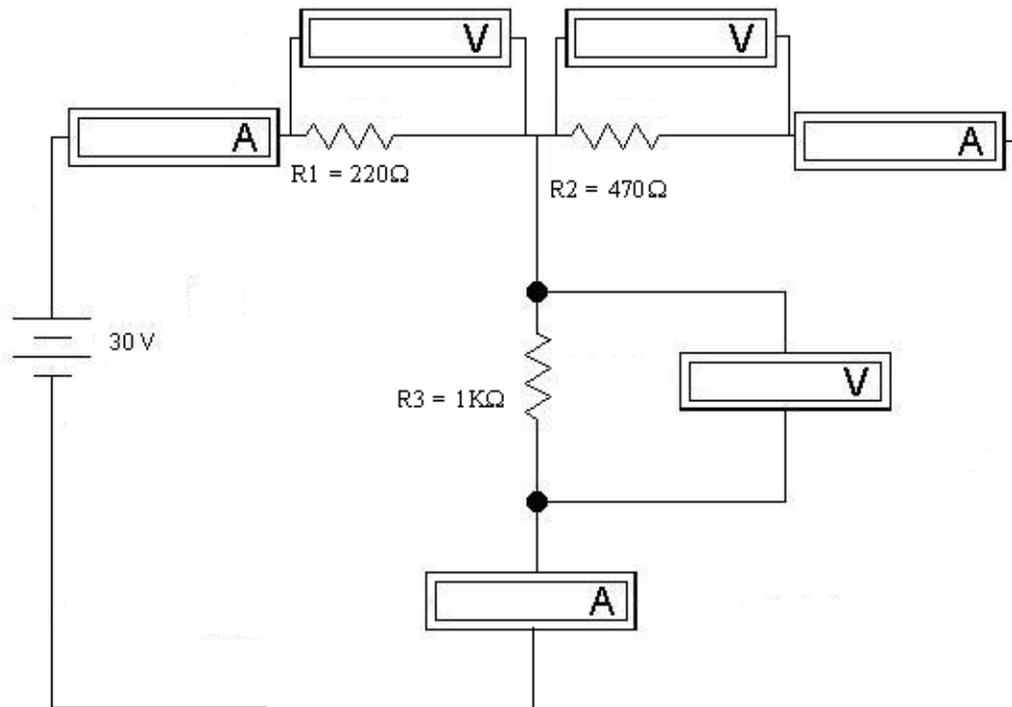

Figure.8 Circuit diagram to verify Tellegen's theorem
3. Give connections as given in Figure 8 by simply dragging the mouse.